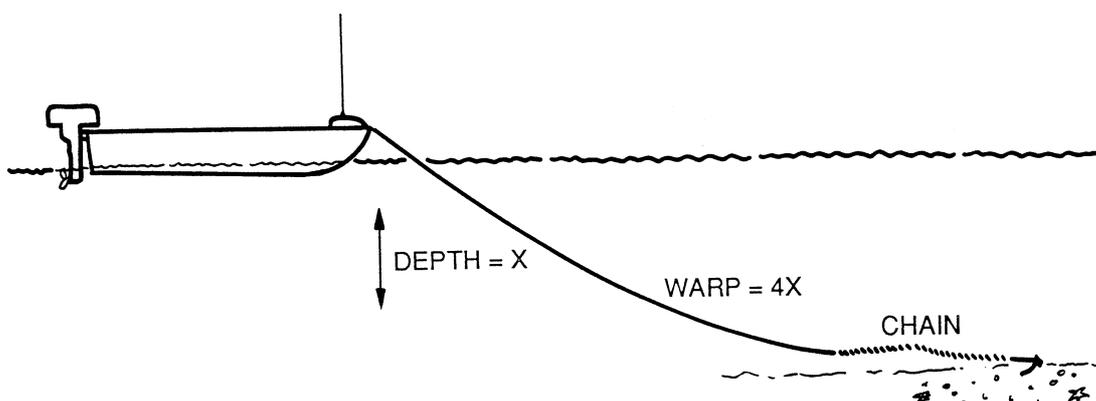

Figure 5:12—Safe Anchoring
- d. The minimum length of anchor rope to be let out is at least four times the depth of the water at high water. (See Figure 5:12).